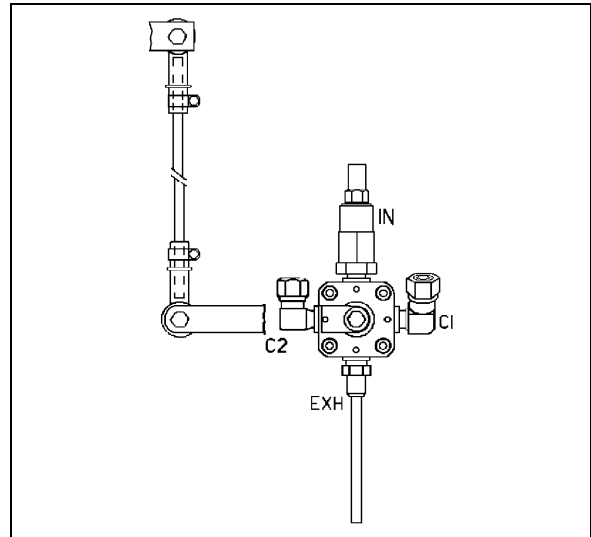

FIGURE 52: FRONT HEIGHT CONTROL VALVE 16100
4. Loosen the clamp on the height control valve rubber coupling and bring it up or down (Fig. 52).